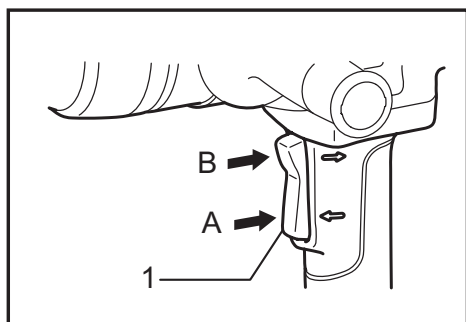

Fig.1
- **Fig.1:** 1. Switch trigger